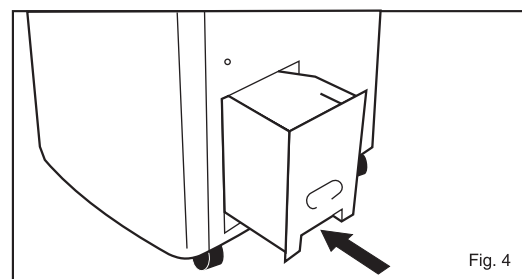

Fig. 4
- 4) Make sure the Water Tank is correctly positioned inside the cabinet otherwise the unit will not operate (*Fig 4*).